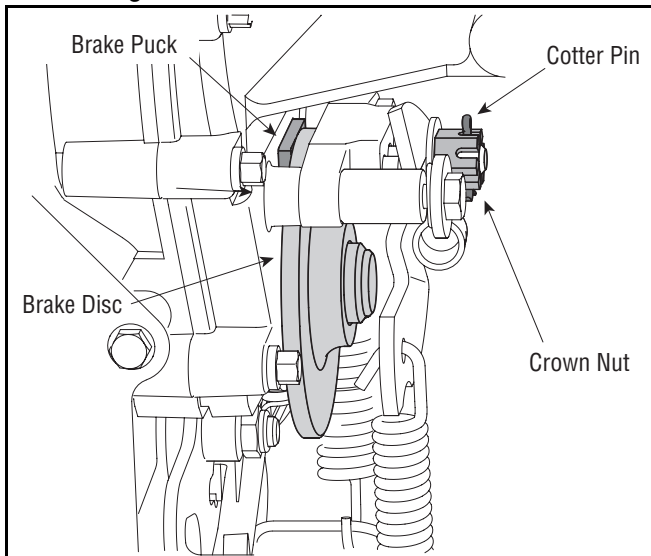

Figure 11
- Looking at the transmission from the right side of the tractor, locate the brake puck and brake disc. See Figure 11.
- Remove and discard the cotter pin which secures the crown nut to the assembly. See Figure 11.